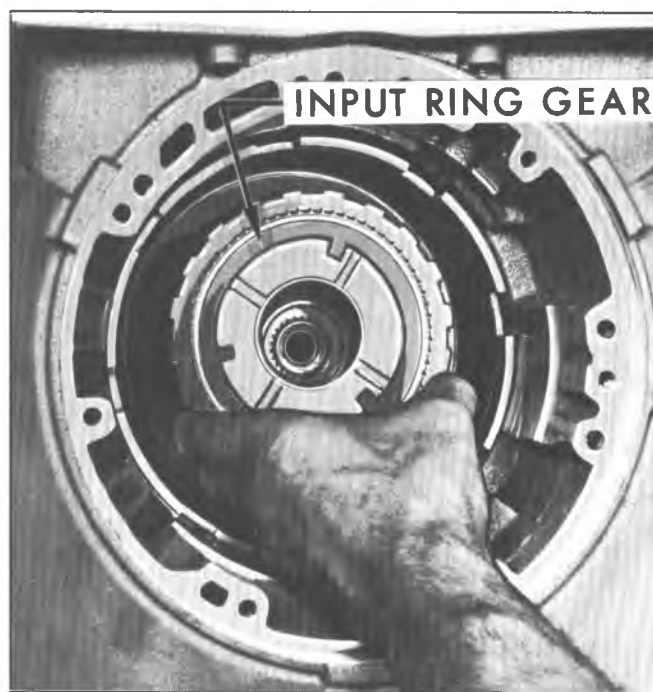

Fig. 35M--Removing Input Ring Gear
10. Remove input ring gear (fig. 35M).